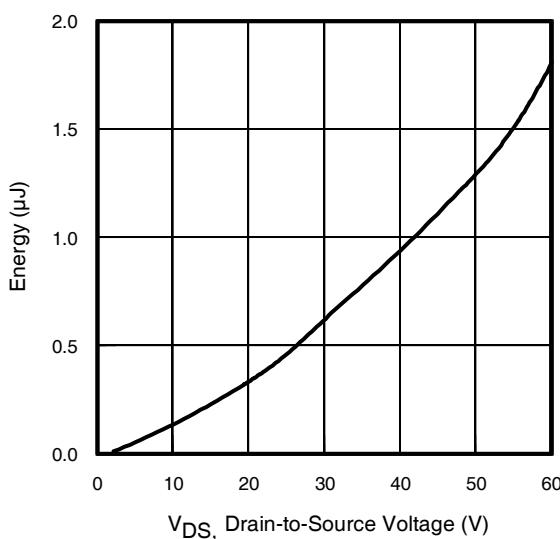

Fig 11. Typical C_{oss} Stored Energy
| $C_{oss \text{ eff. (ER)}}$ | Effective Output Capacitance (Energy Related) | — | 1040 | — | pF | $V_{GS} = 0V, V_{DS} = 0V \text{ to } 48V$ ⑦, See Fig.11 |